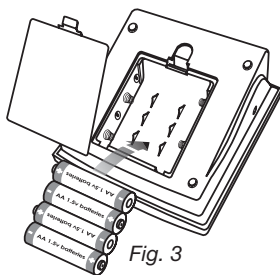

Fig. 3
b) Insert the batteries (4 x size AA 1,5V), **thereby observing the indicated polarity** (Fig.3) and close the cover.